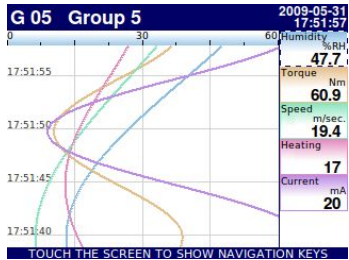

Fig. 6.8. Examples of **Horizontal** (for 3 channels) and **Vertical Charts** (for 5 channels)
- as horizontal charts **Fig. 6.8**
- as vertical charts **Fig. 6.8**